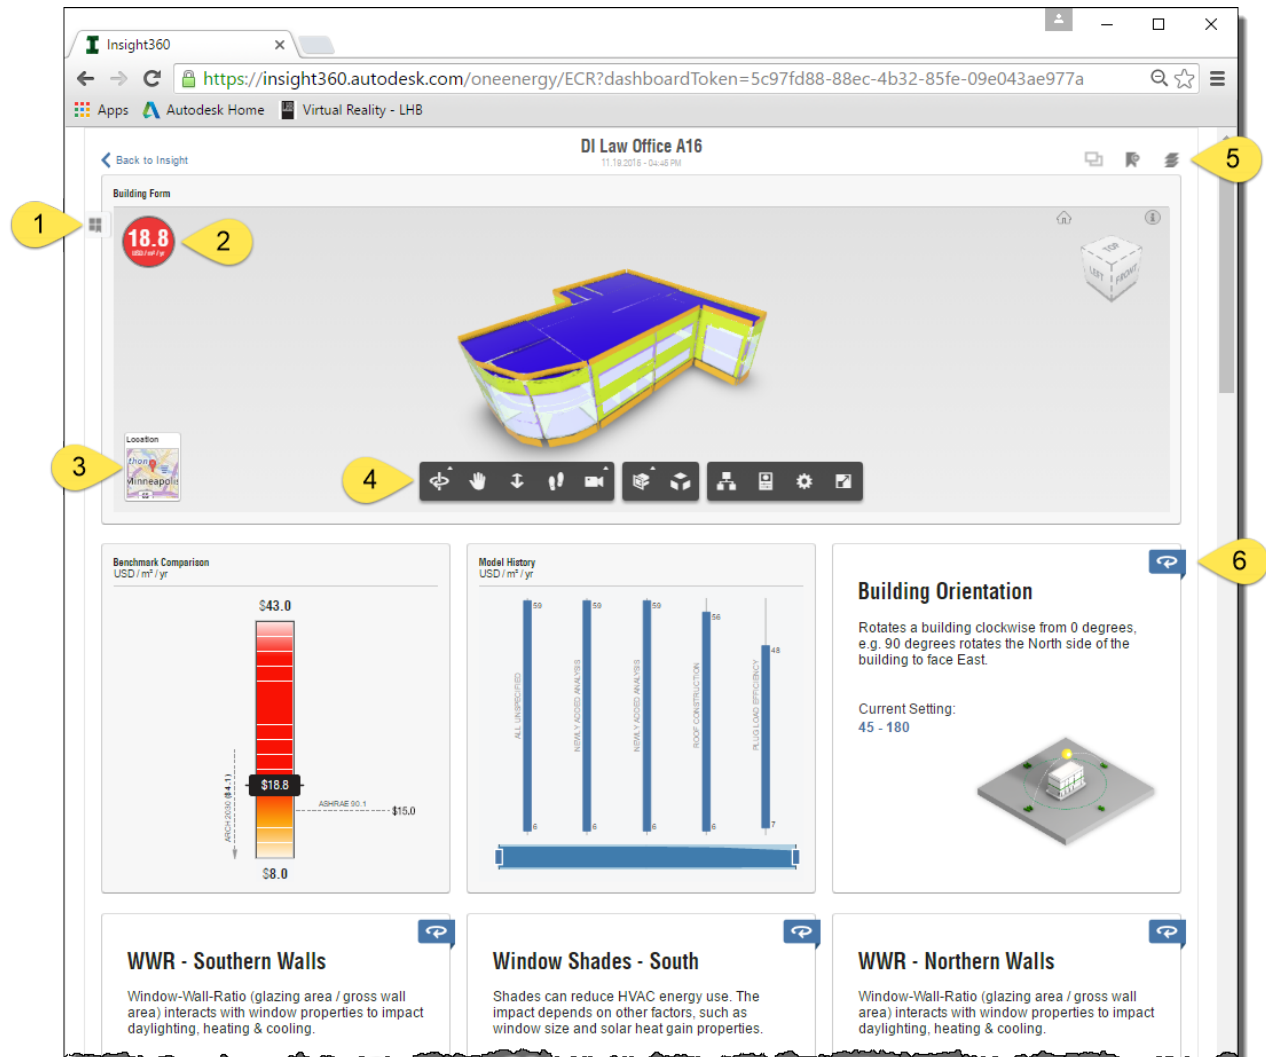

Figure 19. Initial project view in Insight 360.
Let's take a minute to look at the User Interface (UI). There are several interesting aspects of the UI that should be understood to fully leverage this new tool. They are marked in the image below (Figure 19) and discussed subsequently.